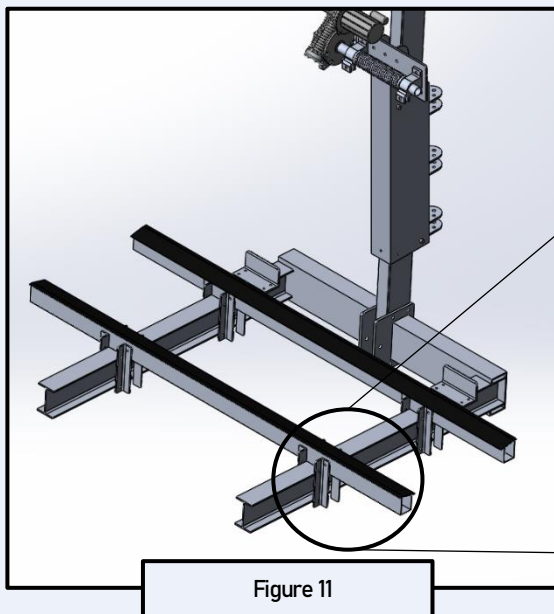

Figure 11
1. Sliding the connected brackets away from each other, position the BUNK between two (2) sets of brackets so that the single hole in the brackets are aligned with the single hole on the bunk for each set as shown in figure 11.
2. Slip one (1) Washer over one (1) 3/8" X 4" Hex Bolt and insert it into the hole on the bracket side facing the BUNK Repeat seven (7) times for other bracket sets.
3. Slip one (1) 3/8" Washer, one (1) 3/8" Lock Washer, and one (1) 3/8" Hex Nuts onto the protruding end of the bolt and securely fasten; repeat for the remaining seven (7) bolts.